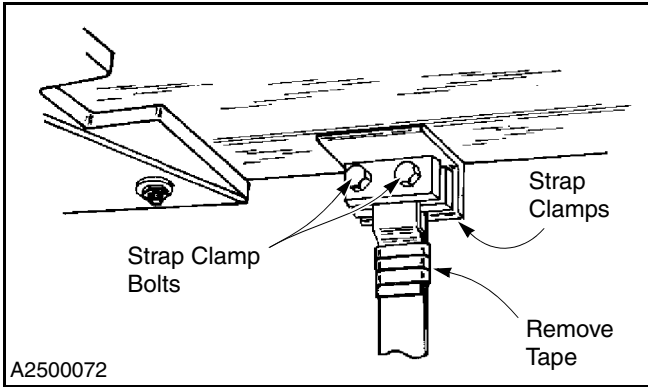

Figure 63
4. To adjust the rear windbar, loosen the rear strap clamp bolts and move the windbar up and down, as required, by moving the strap up or down through the clamps. Retighten the strap clamp bolts when the windbar is in the correct position. (See Figure 63.)